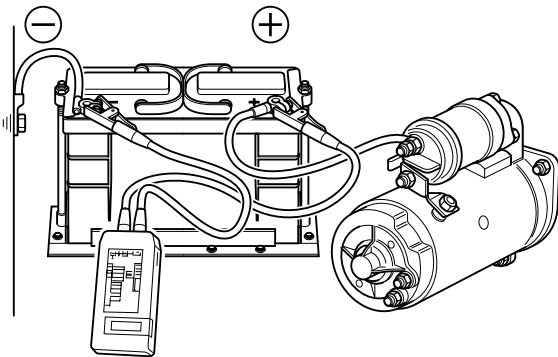

Fig 17.
- 1 Connect the voltmeter across the battery terminals. → Fig 17. (□ 14). Reading in 'start' position: 10.0V approximately. Minimum permissible reading in 'start' position 9.5V.